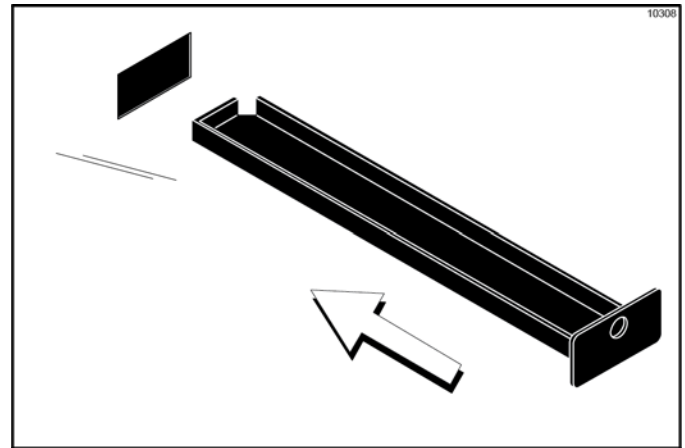

Figure 6-73
12. Remove, clean, and reinstall the two notched drip pans in the left and right side panels. (See Figure 6-73.)